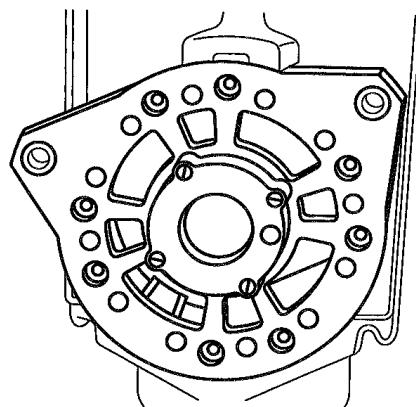

Figure 27 Drive End Bearing Retaining Screws
3. Start the four screws which hold the bearing cover plate and tighten to 4.1 ... 5.5 Nm (36.3 ... 48.7 in. lbs.) (Figure 27)